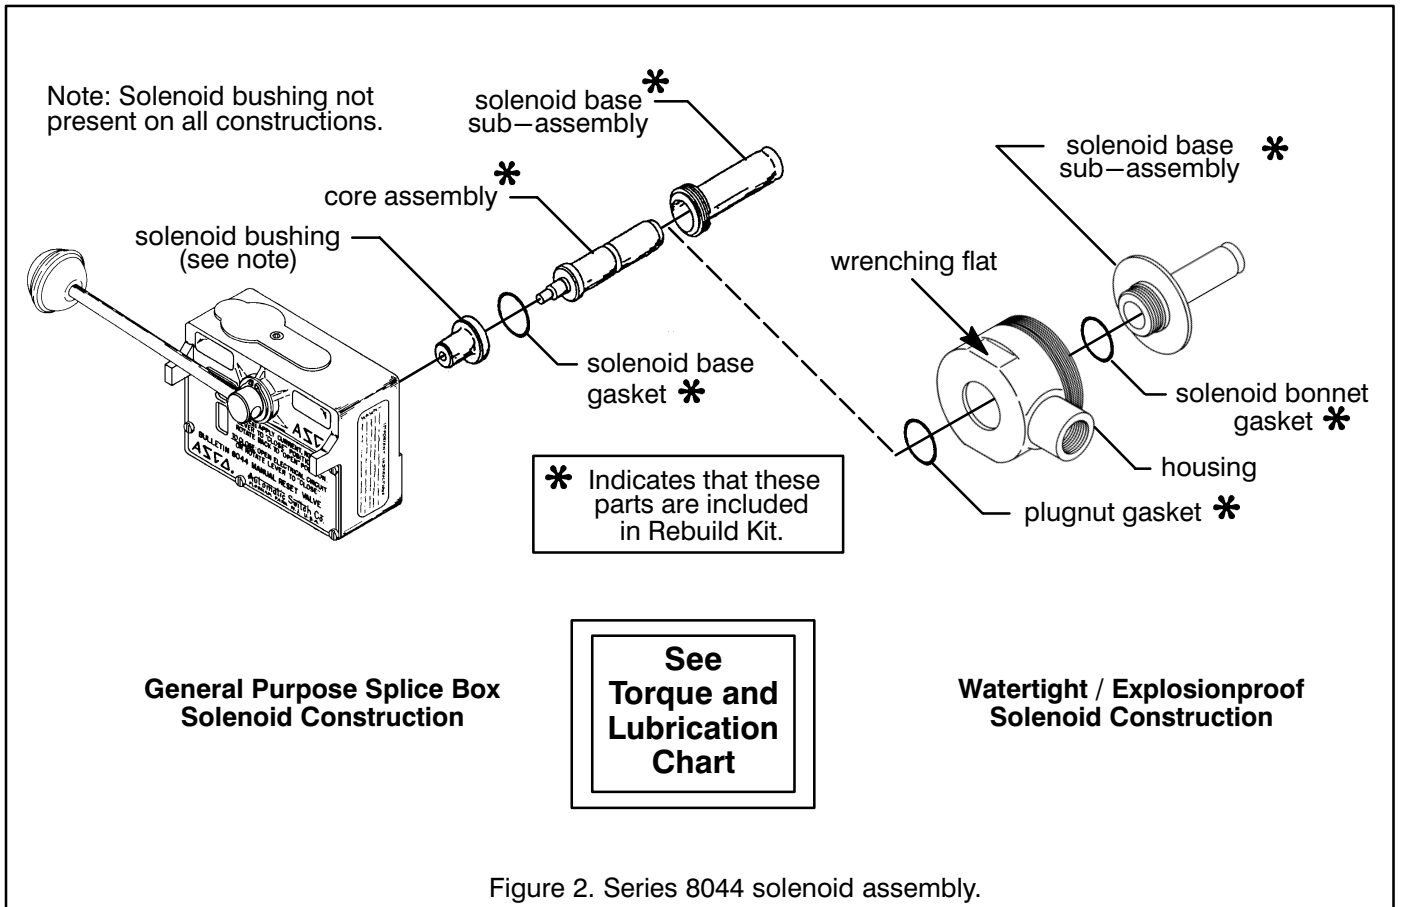

Figure 2. Series 8044 solenoid assembly.
4. Remove solenoid base sub-assembly, core assembly, solenoid base gasket, and solenoid bushing (not present on all constructions) from housing (Figure 2).